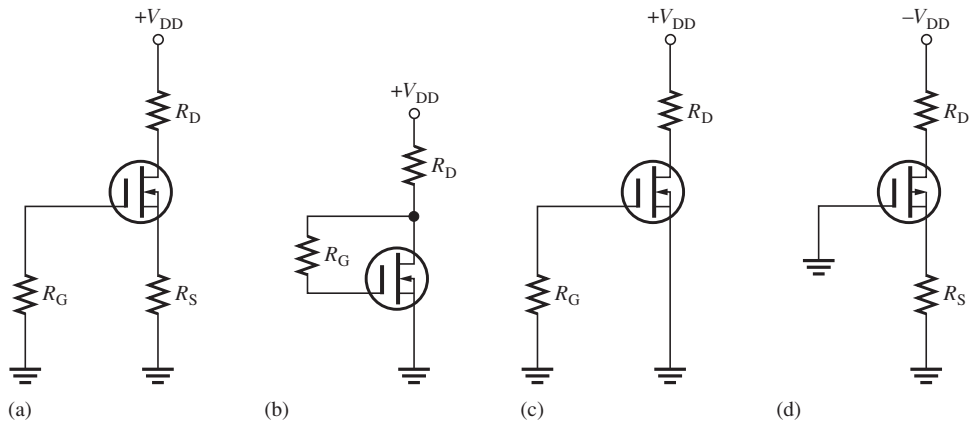

FIGURE 4-80
20. Determine in which mode (depletion or enhancement) each D-MOSFET in Figure 4-80 is biased.